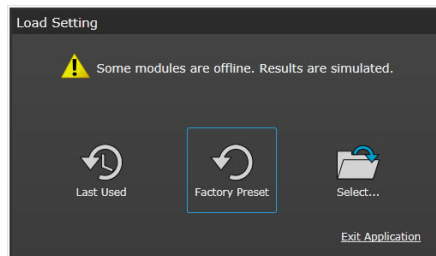

Figure 34 Load Settings screen
- 3 When the **Load Settings** screen appears as shown in Figure 34 on page -87, load the last used, factor preset, or new settings.